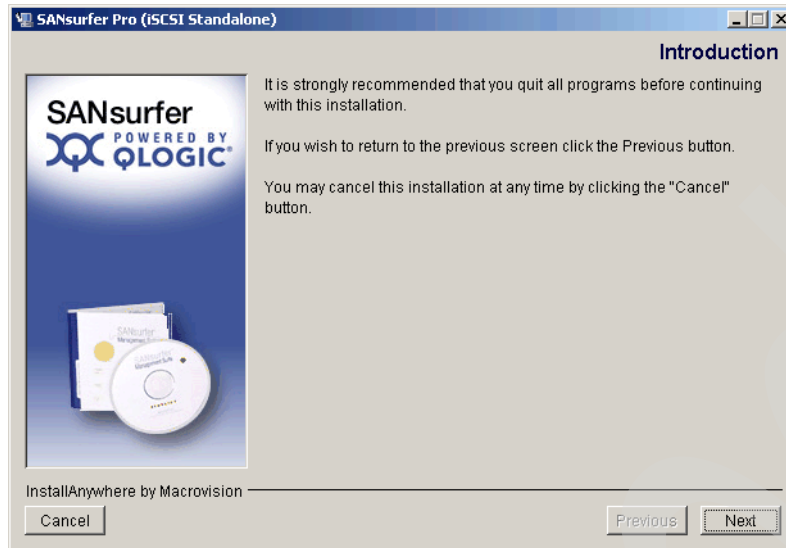

Figure 21-12 SANsurfer installation - Introduction
5. SANsurfer starts to install automatically, as shown in Figure 21-12 on page 491. Click **Next**.